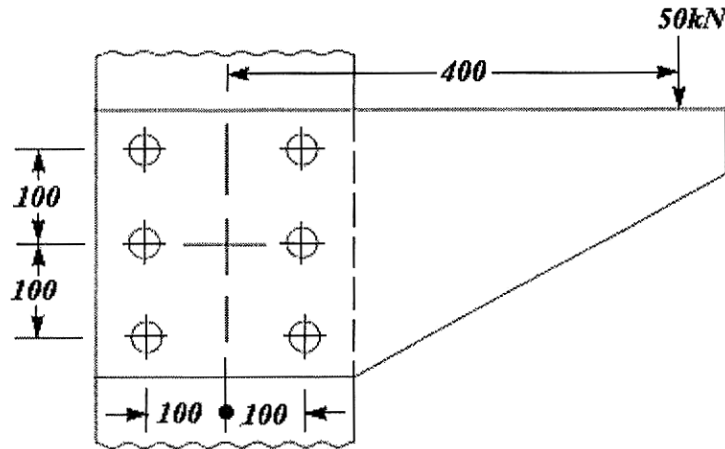

Fig. Q7(b).
- b) A 25mm thick steel bracket is to be attached to a wall with the help of six identical bolts as shown in the figure Q7(b). Select standard bolts made of suitable material for the eccentrically loaded bolted joint application.